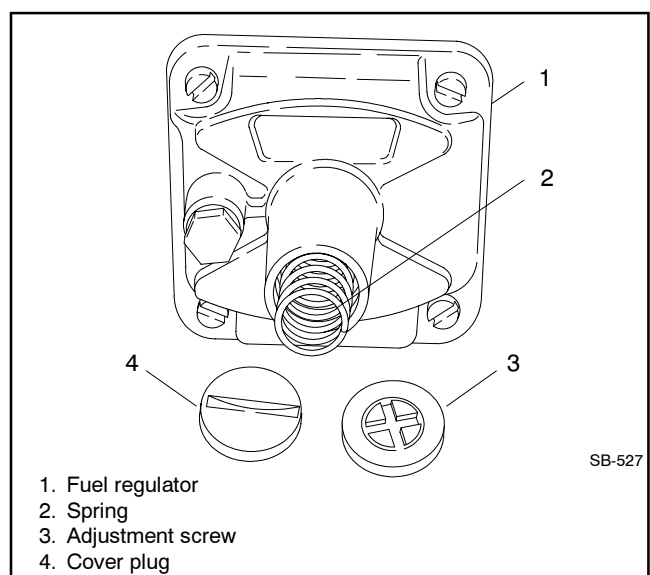

Figure 7-4 Fuel Regulator, Typical
- Remove the fuel regulator cover plug. See Figure 7-4.